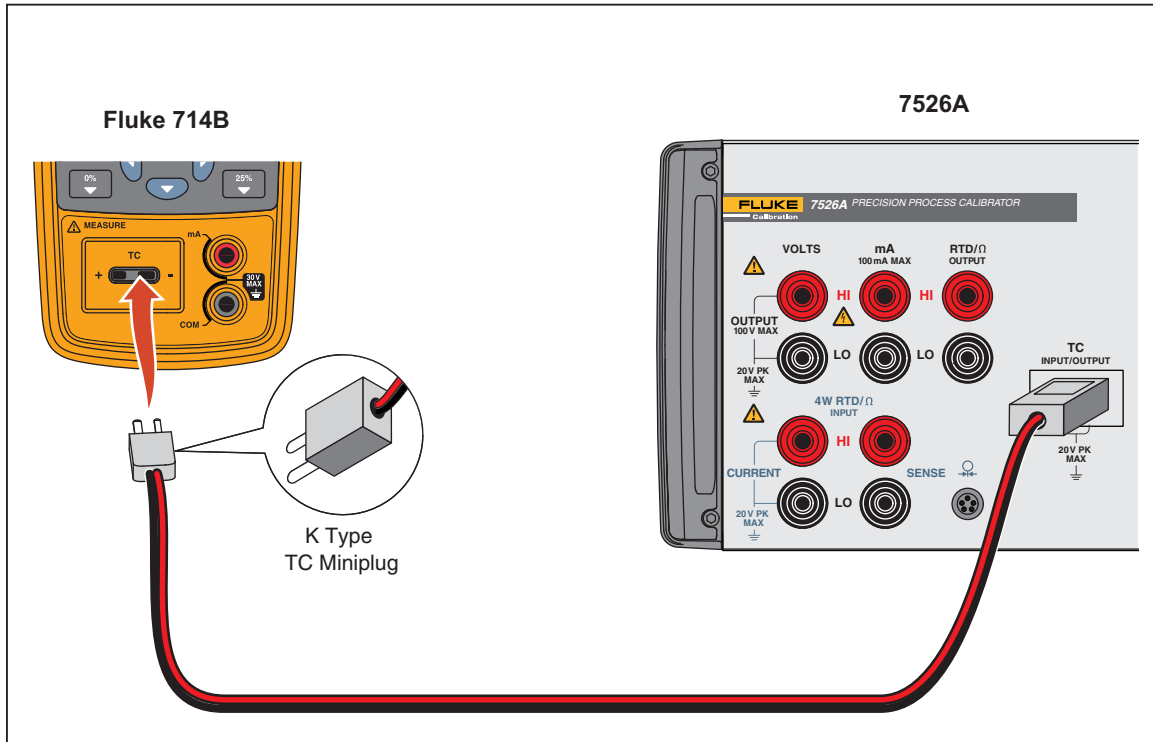

Figure 8. Verify Type K Measure
3. Use K type TC sensor to connect the 7526A and the 714B, as shown in Figure 8.
3. Maintain the connections in Figure 8.